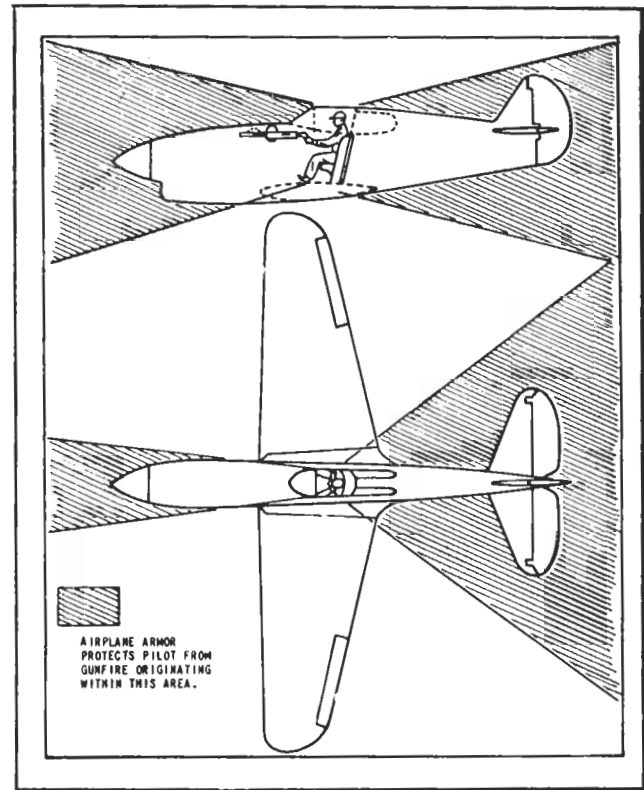

Figure 1 - Angles of Armor Protection
(3) Coolant: Ethylene glycol.
d. Pilot Protection. - Front and rear armor protection sufficient to withstand enemy fire by direct right angle hit is provided for the pilot. Enemy fire originating within the areas graphically illustrated in figure 1 will not reach the pilot.